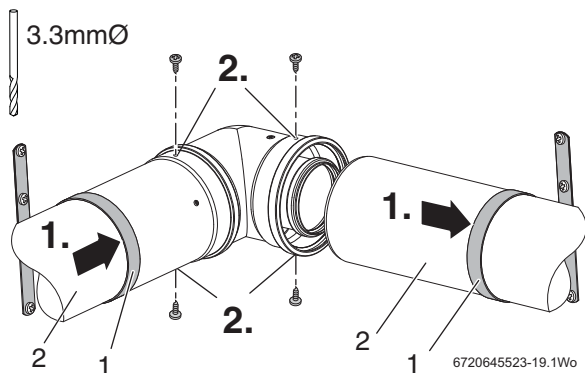

Fig. 29 Extensions employing elbows
- ▶ Referring to figure 29 and 30 slide the support clamps (1) onto the additional flue extensions (2).
1. Working from the boiler, fit the support clamps (1), to take the weight of the flue elbows and extensions (2).
2. Drill two holes with the jobber's drill bit provided (180° apart if possible) through the outer flue tube (L) on each flue joint, taking care NOT to drill the inner flue tube, and secure with screws provided.